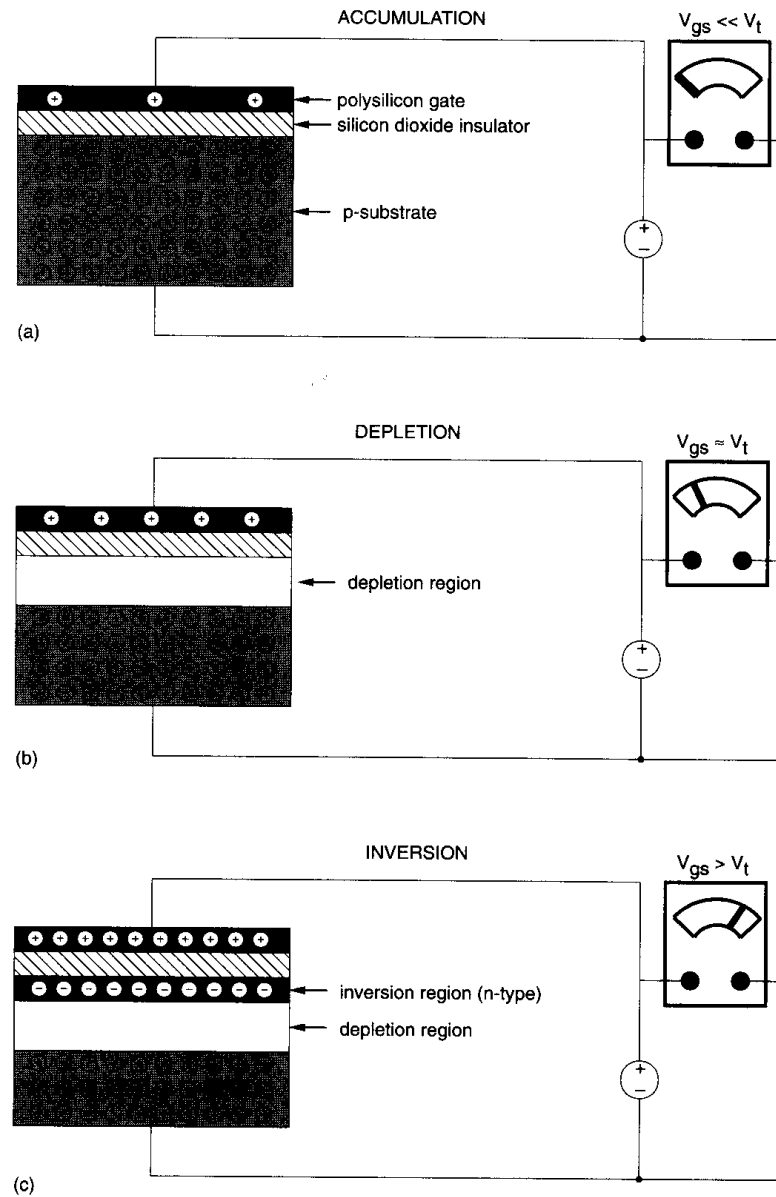

FIGURE 2.4 Accumulation, Depletion and Inversion modes in an MOS structure.
- Accumulation mode: With positive gate bias with respect to the source and substrate (generally denoted by $V_{gs} > 0$), an electric field E across the substrate is established such that electrons are attracted to the gate and holes are repelled from the gate.(See Figure 2.4 (a))
- Depletion mode: If $V_g \cong V_{tn}$, a depletion channel under the gate free of charges is established.(See Figure 2.4 (b))
- Inversion mode: If $V_{gs} > V_{tn}$, an inversion channel (region) consisting of electrons is established just under the gate oxide and a depletion channel (region) is also established just under the inversion region.(See Figure 2.4 (c))